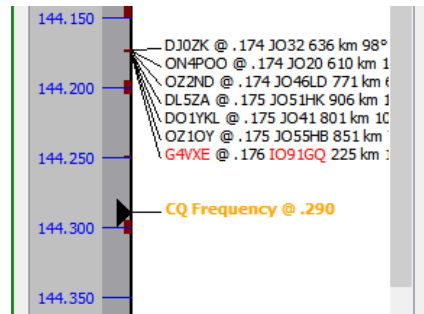

Figure 145 – Run frequency marker
- If operating in Run mode, the current Run frequency is marked on the display136 as '**CQ Frequency**', with the fractional frequency appended (see Figure 145); the marker changes colour if the rig moves off the run frequency.